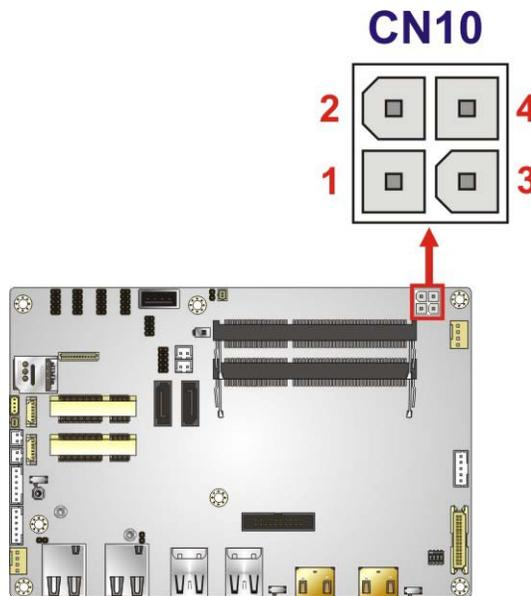

Figure 4-2: +12V DC-IN Power Connector Location
- CN Location: See **Figure 4-2**